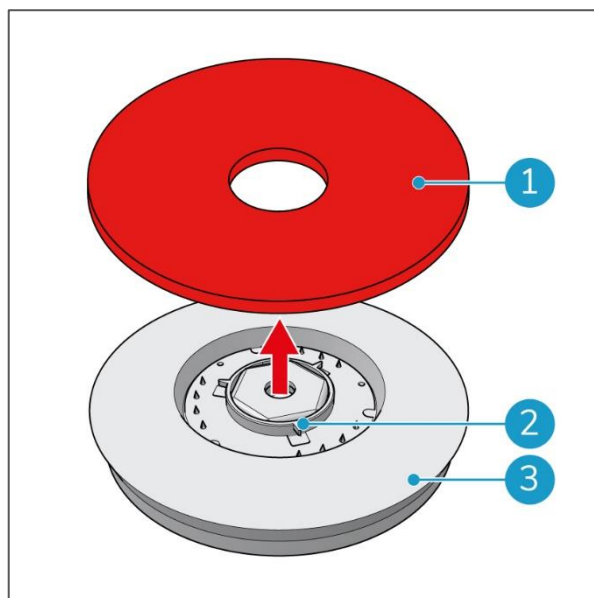

Figure 45
2. Check the condition of the pads (Figure 45, pos 1). If they look compressed, they lose their function and they need to be replaced.
3. Pull the pad out of the three locking tabs (Figure 45, pos 2) and remove the pad from the pad driver (Figure 45, pos 3).